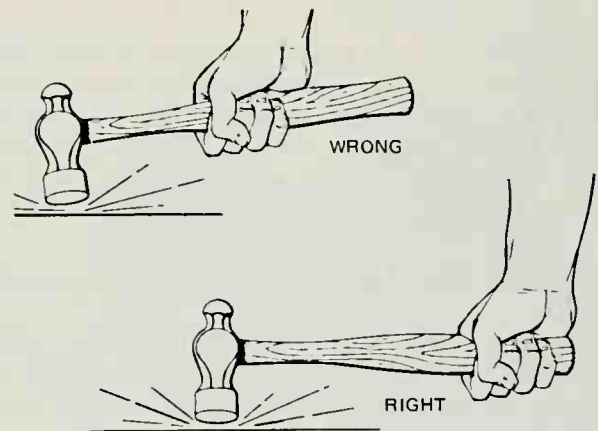

Figure 2-9. Use the hammer correctly. Grasp at the end of the handle as shown and hit squarely. (*Ford Motor Corp.*)
8. To use a hammer efficiently, you must learn how to hold it properly. Grasp the hammer near the end of its handle and place the head of the hammer on the object you want to strike. This will help your aim. Tap the object once or twice lightly, and then, when you are sure of your aim, hammer on the object. Hit the object square with the full striking force of the hammer (Figure 2-9).